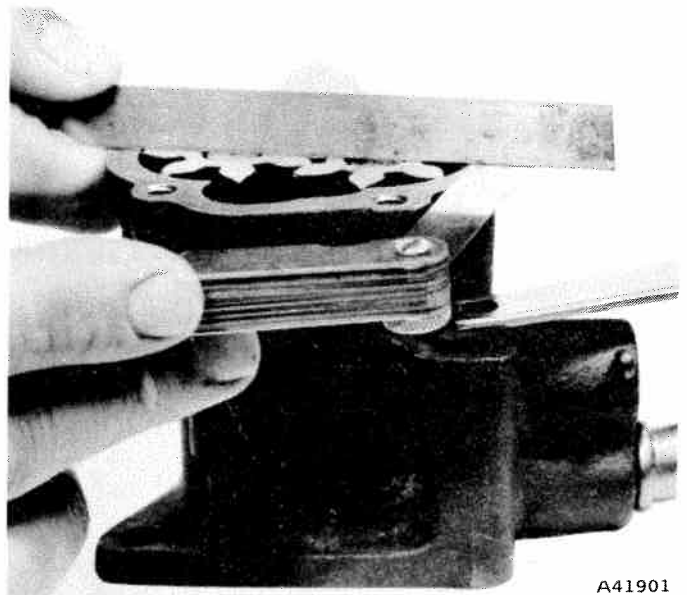

Fig. 1A-32 Oil Pump Gear End Clearance Measurement
feeler gauge which will fit snugly but freely between straight edge and oil pump body (fig. 1A-32). Refer to specifications for correct clearance.
(3) Measure gear-to-body clearance by inserting a feeler gauge between gear tooth and pump body inner wall directly opposite the point of gear mesh. Select a feeler gauge which fits snugly but freely (fig. 1A-33). Rotate gears to check each tooth in this manner. Refer to specification for correct clearance.
(1) Install oil pressure relief valve, spring, retainer, and cotter pin.
(2) If position of the inlet tube in the pump body has been disturbed, install new tube and screen assembly. Apply a light film of Permatex No. 2 or equivalent around end of tube. Using tool J-21882 (fig. 1A-34) drive tube into body making sure that support bracket is properly aligned.
(3) Install idler shaft, idler gear and drive gear assembly.